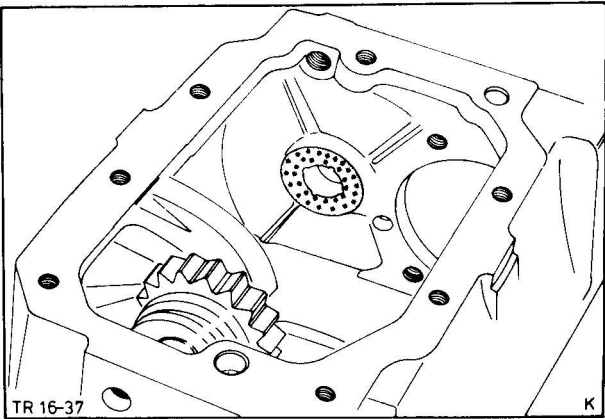

Fig. 52. Stick thrust washers of countershaft gear train to gearbox casing
42. Stick front thrust washer of countershaft gear train to recess in gearbox casing with grease, Fig. 52.